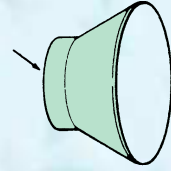

Fig. 6
**B.** Apply a small amount of nonhardening silicone FITV on surface of insert (see Figure 6).